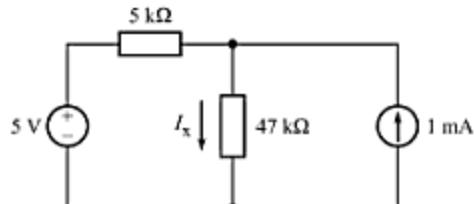

Fig. A-74
- A-33. For the circuit of Fig. A-74, compute the current *I*_x through the 47-kΩ resistor after transforming the 5-V source into an equivalent current source.